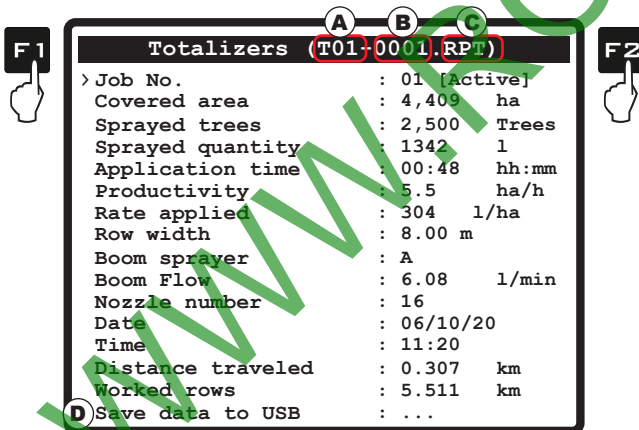

Fig. 73
- It is possible to save the totalizer reports on USB pendrive using the relevant function **Save data to USB** (Fig. 73).
- Select item **Job No.** (Fig. 73) and press **CLR**.